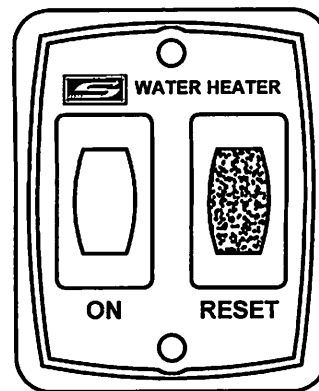

Figure 12
- Turn switch that operates the water heater to "ON" position. The switch is illustrated in Figure 12. Your Switch may be different in appearance and is located somewhere inside the RV. If the burner does not light, the system will automatically attempt two more tries for ignition before lock-out. When light remains illuminated, the system is in lockout. NOTE: Each ignition cycle will have a 15 second purge before spark cycle if system is a three try system.